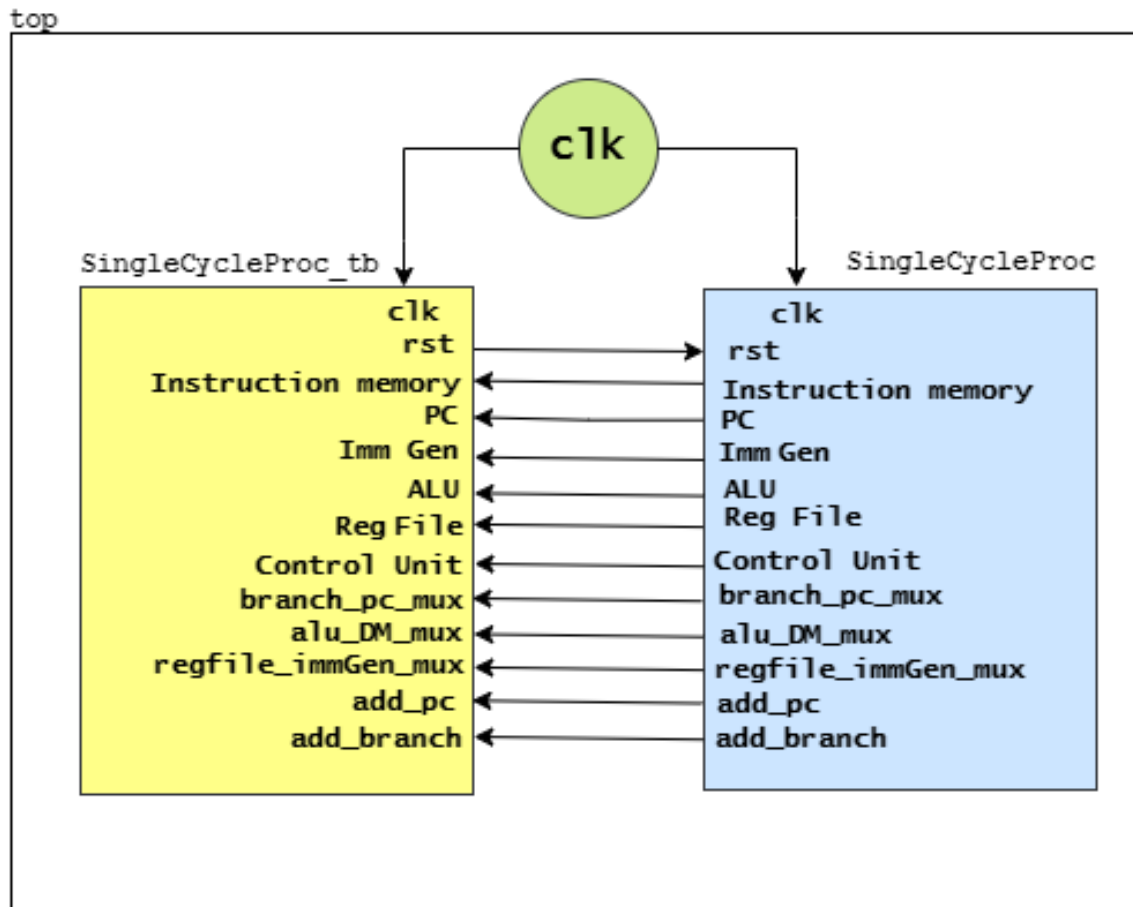

Figure 3.2: The Top Module
5. Create a testbench and connect it to the `SingleCycleProc` instance as shown in figure. The testbench and `SingleCycleProc` must be instantiated in the module named `top` as shown in figure 3.2. The `rst` signal asynchronously resets the PC you coded in the last lab i.e. the output of the PC should be zero upon reset. In the next lab, you will write the complete testbench to test the processor.